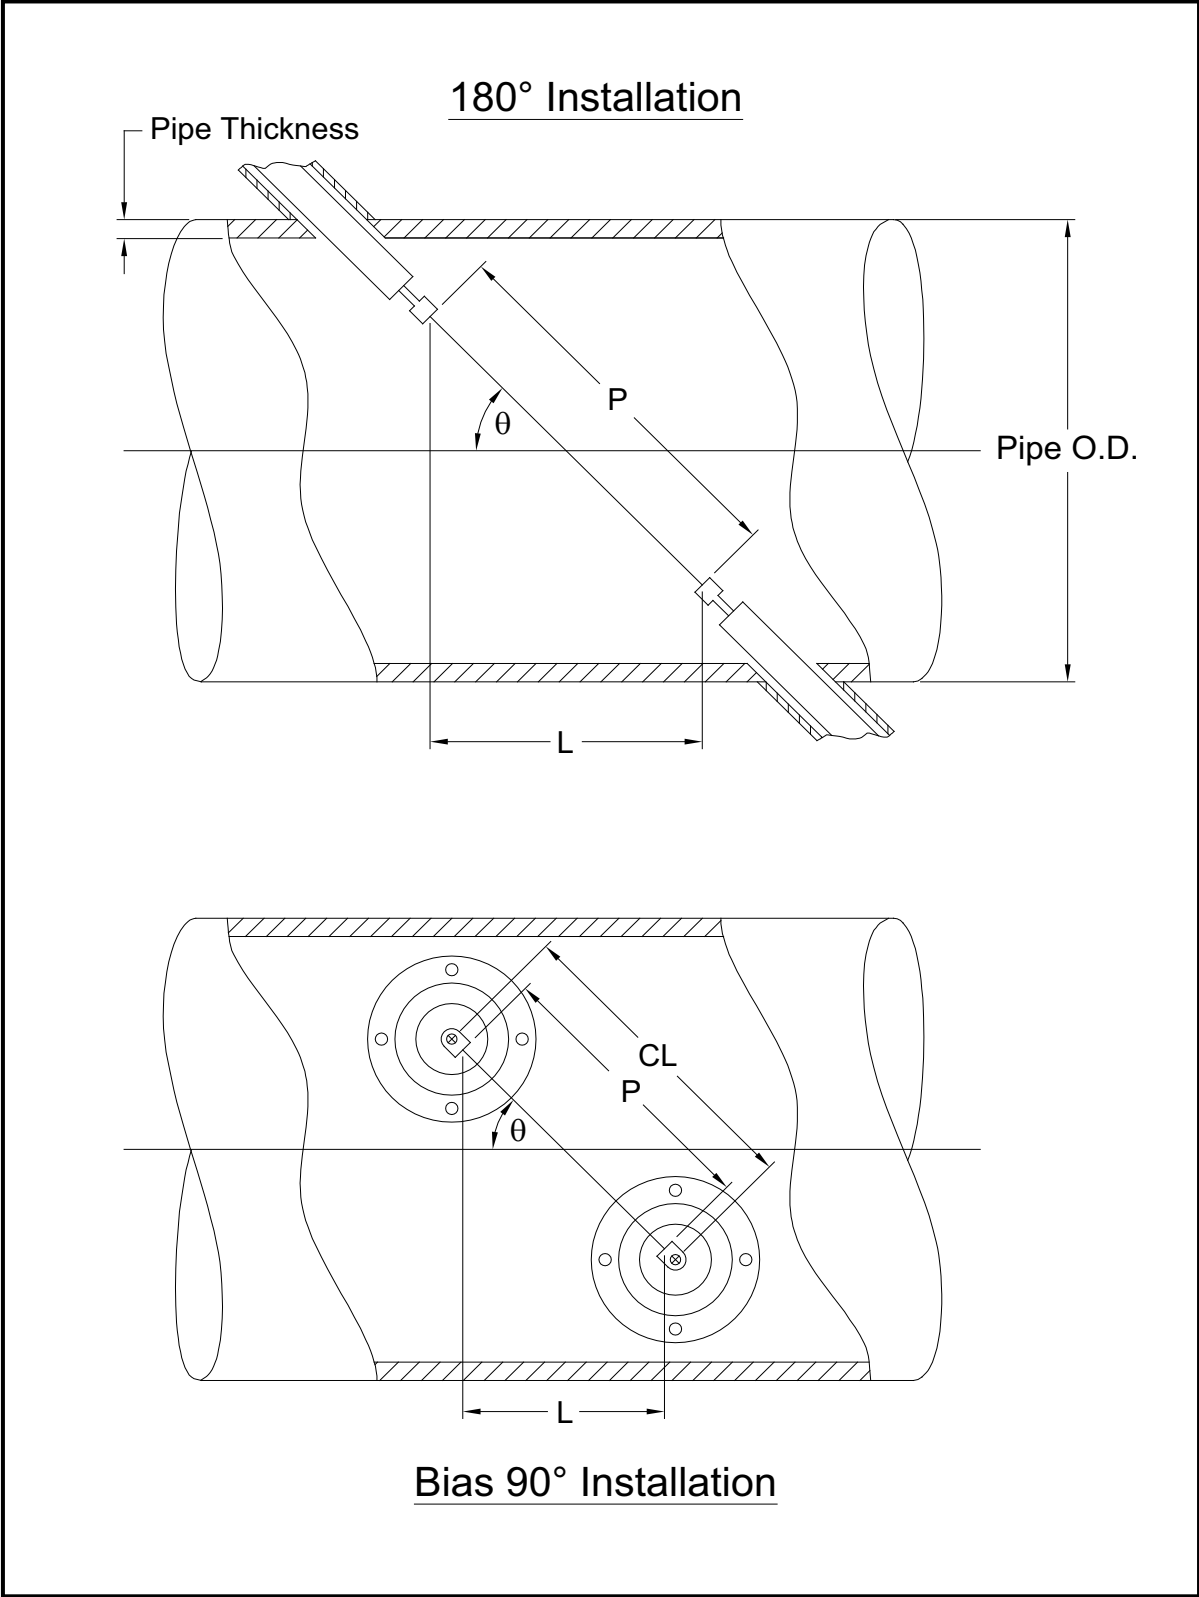

Figure 22: Top View of Typical Transducer Installations
The accuracy of the programmed P and L values is critical to precise flow rate measurements. If Panametrics supplies the flowcell for the system, the correct values will be included in the documentation supplied with the system. For transducers installed on an existing pipe (see *Figure 22 on page 68*), P and L must be measured at the site. This appendix provides instructions for properly determining these dimensions.
Whenever possible, physically measure the face-to-face distance (P) and the axial distance (L) between the centers of the flat faces of the transducers. Refer to *Figure 22 on page 68* for an illustration of the proper distances to measure, in a typical installation.
With a Bias 90° transducer installation, it sometimes happens that the only known parameters are the transducer angle (θ) and the centerline distance between the transducer bodies (CL). In these cases, it is still possible to calculate P and L by combining Equation C-1 with the additional Equation C-2 (see *Figure 22 on page 68*):